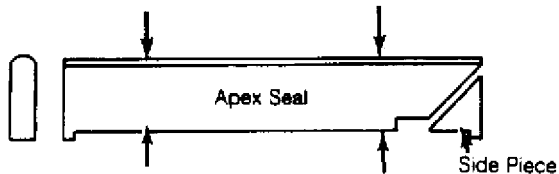

Fig. 14: Measuring Apex Seal Height
1) Clean all carbon from apex seal and spring with a cleaning solution (not emery paper). Measure height of apex seal with a micrometer. See Fig. 14. Replace seal if height is less than .275" (7.0 mm).